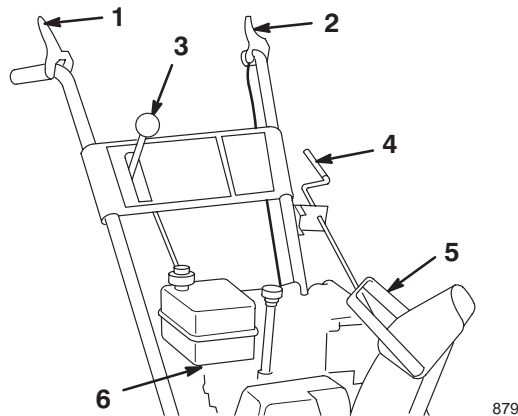

Figure 13
- **Auger/Impeller Drive Control Lever** (Fig. 13)—To engage both the auger and impeller, press the lever against the right handgrip. To disengage, release the lever.
- **Traction Control Lever** (Fig. 13)—To engage the traction (wheel drive), press the lever against the left handgrip. To stop the traction, release the lever.
- **Speed Selector** (Fig. 13)—This control has 4 positions: 3 forward speeds and 1 reverse. To change speeds, move the speed selector to the desired position. The lever locks in a notch at each speed selection.
- **Discharge Chute Control** (Fig. 13)—Rotate the discharge chute control clockwise to move the discharge chute to the left; counterclockwise to move the chute to the right.
- **Chute Deflector Handle** (Fig. 13)—Move the deflector handle forward to move the snow stream down; move it rearward to move the snow stream up.
- **Fuel Shutoff Valve** (Fig. 13)—Close the valve by rotating clockwise. Open the valve by rotating it counterclockwise. Close the valve when you do not use the snowthrower.
3. Release the auger/impeller drive control lever and the traction control lever (Fig. 13).
11. Move the speed selector (Fig. 13) to first gear, squeeze the traction control lever to the handgrip, and then release the traction control lever. If the snowthrower moves forward before engaging the traction drive control lever or after releasing the lever, see Adjusting the Traction Drive on page 21.